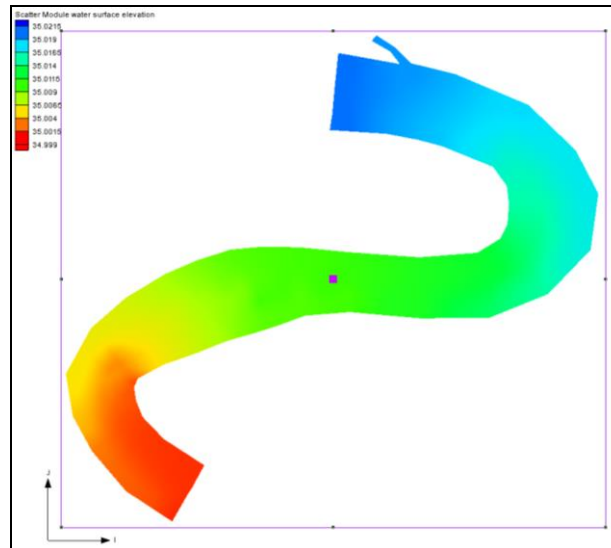

Figure 3 Grid frame
6. Using the **Create 2-D Grid Frame**  tool, create a grid frame enclosing the entire S-curve, as shown in Figure 3.